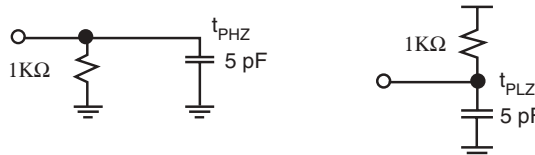

Figure 2: Loads used for t_{PXZ}
- a. The loads presented in **Figure 2** are used for t_{PXZ} :